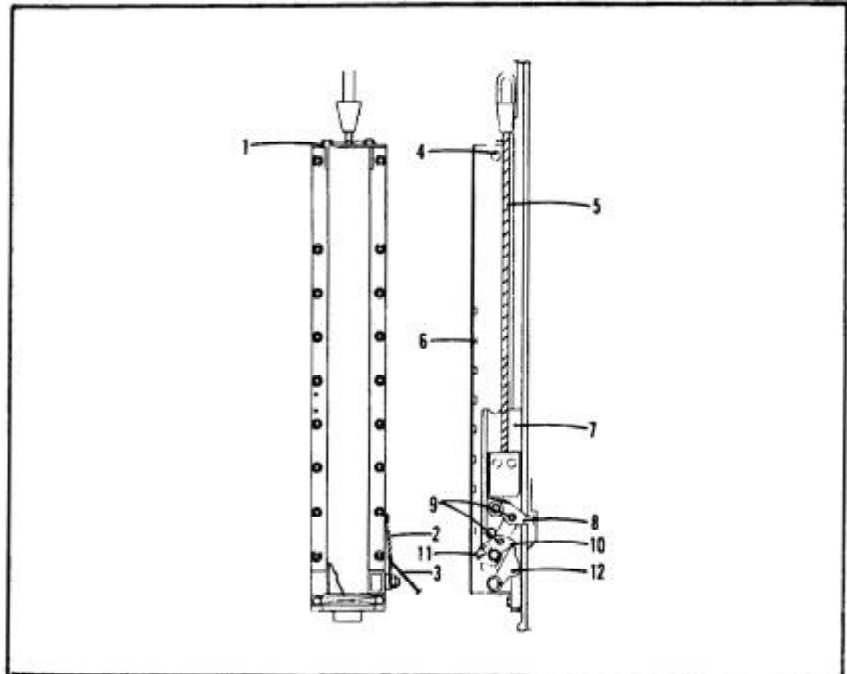
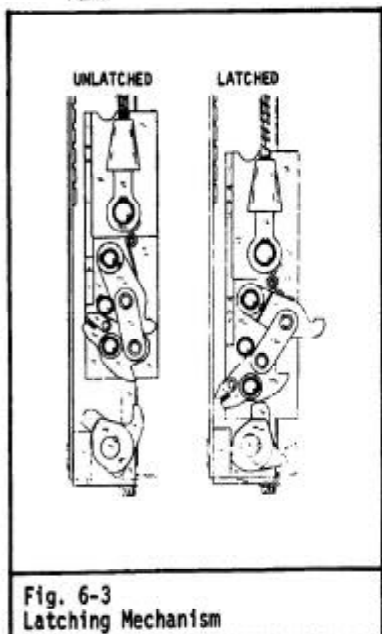

Fig. 6-1
Fig. 6-3
- Crane operator can now lower starting device (7) Fig. 6-1, until it strikes the latching lever (12), thereby rotating the linkage over center and latching the lifting lever with ram. (See Fig. 6-3.)
- (b) Remove housing (7 in Fig. 6-1), which contains starting device, from cover.